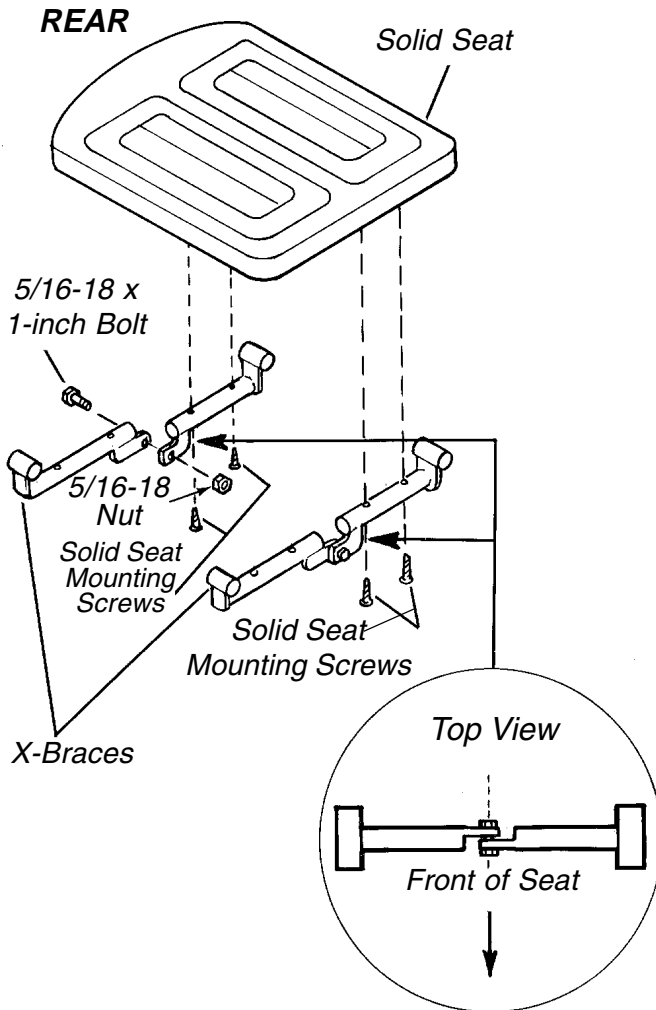

FIGURE 3 - REMOVING THE X-BRACES FROM THE SOLID SEAT
8. Remove both X-Braces from the solid seat (FIGURE 3).
9. Remove the 5/16-18 x 1-inch bolt and the 5/16-18 locknut that secure the two (2) halves of one (1) X-Brace together. Leave the other X-Brace intact (FIGURE 3).
18. Secure the two (2) sections of the rear solid seat X-Brace together with a 5/16 x 1-inch bolt and nut (FIGURE 3).
20. Secure the seat to the X-Braces with four (4) #10-32 x 1-3/8-inch screws (FIGURE 3).